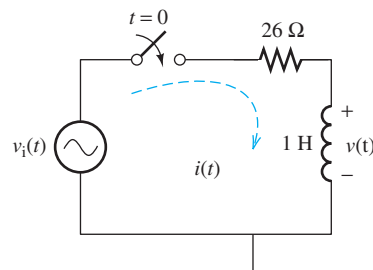

FIGURE P5.51 Circuit for Problem 5.51.
- 5.51 (A) Find $i(t)$ and $v(t)$ in the circuit shown in Figure P5.51 assuming $i_L(0^-) = 1$ A, and the input voltage $v_i(t) = 30 \cos(15t)$ V.